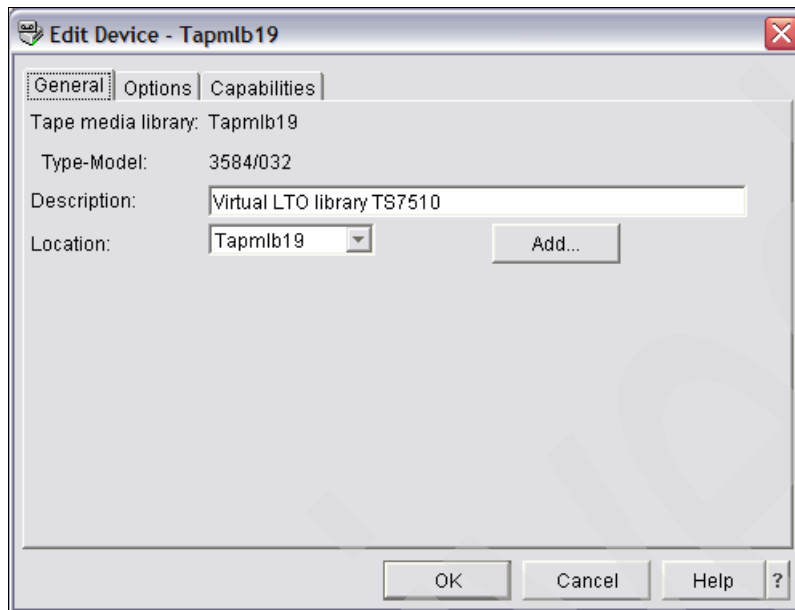

Figure 6-7 Edit Device - General
4. **General:** Under General (Figure 6-7), the only thing required is changing the text “Entry created by auto-configuration” to something more meaningful.
Although this entire section contains much information, we really made only one change: The description text shown in Figure 6-7 on page 136.